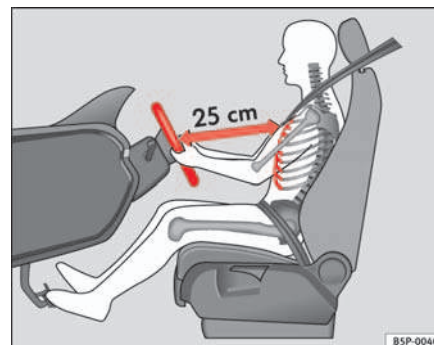

Fig. 128 Proper sitting position for driver
- Adjust the steering wheel in this way until the correct position is set $\Rightarrow$ fig. 128.
- Adjust the driver seat or steering wheel so that there is a distance of at least 25 cm between the steering wheel and your breast bone ⇒ page 157, fig. 128. If you fail to observe the minimum distance, the airbag will not protect you. Risk of fatal injury.